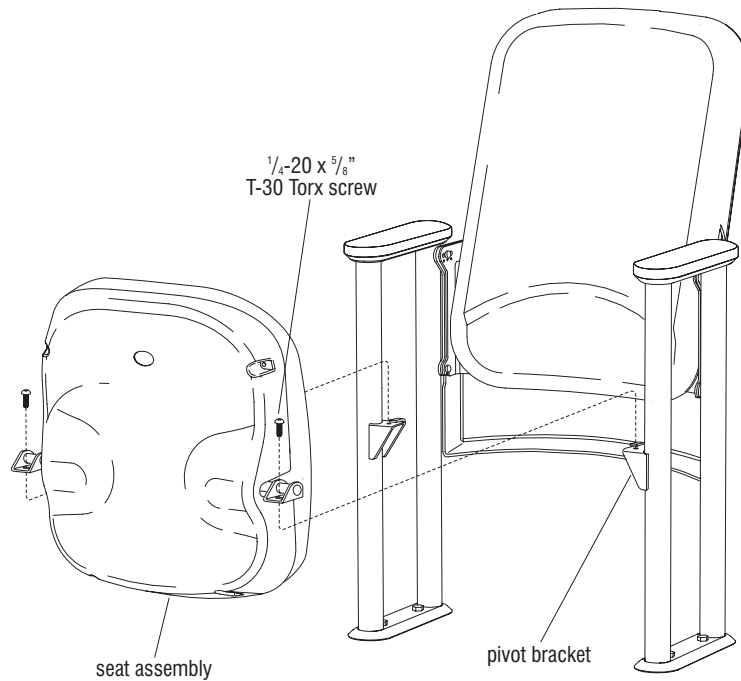

Figure 7
2. Hold the seat assembly with the shroud facing you as shown in the above drawing. Slide the seat into the pivot brackets as shown. Start the 1/4-20 x 5/8" T-30 Torx screws into the pivot brackets. The pivot mounting screws are thread forming screws. Tighten them just tight enough to allow adjustment of the seat's position between the uprights (Figure 7).
1. Remove the pivot screws and lift the seat assembly off the pivot brackets (see Figure 7 in the "Seat Attachment" section). Keep seats in the correct order and location for reassembly at a later time.